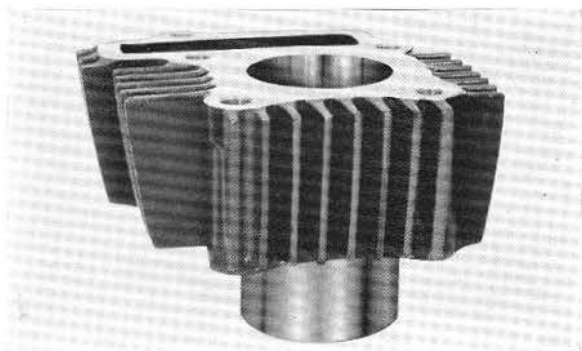

Fig. 2-25 Cylinder
2. Remove cylinder (Fig. 2-25)